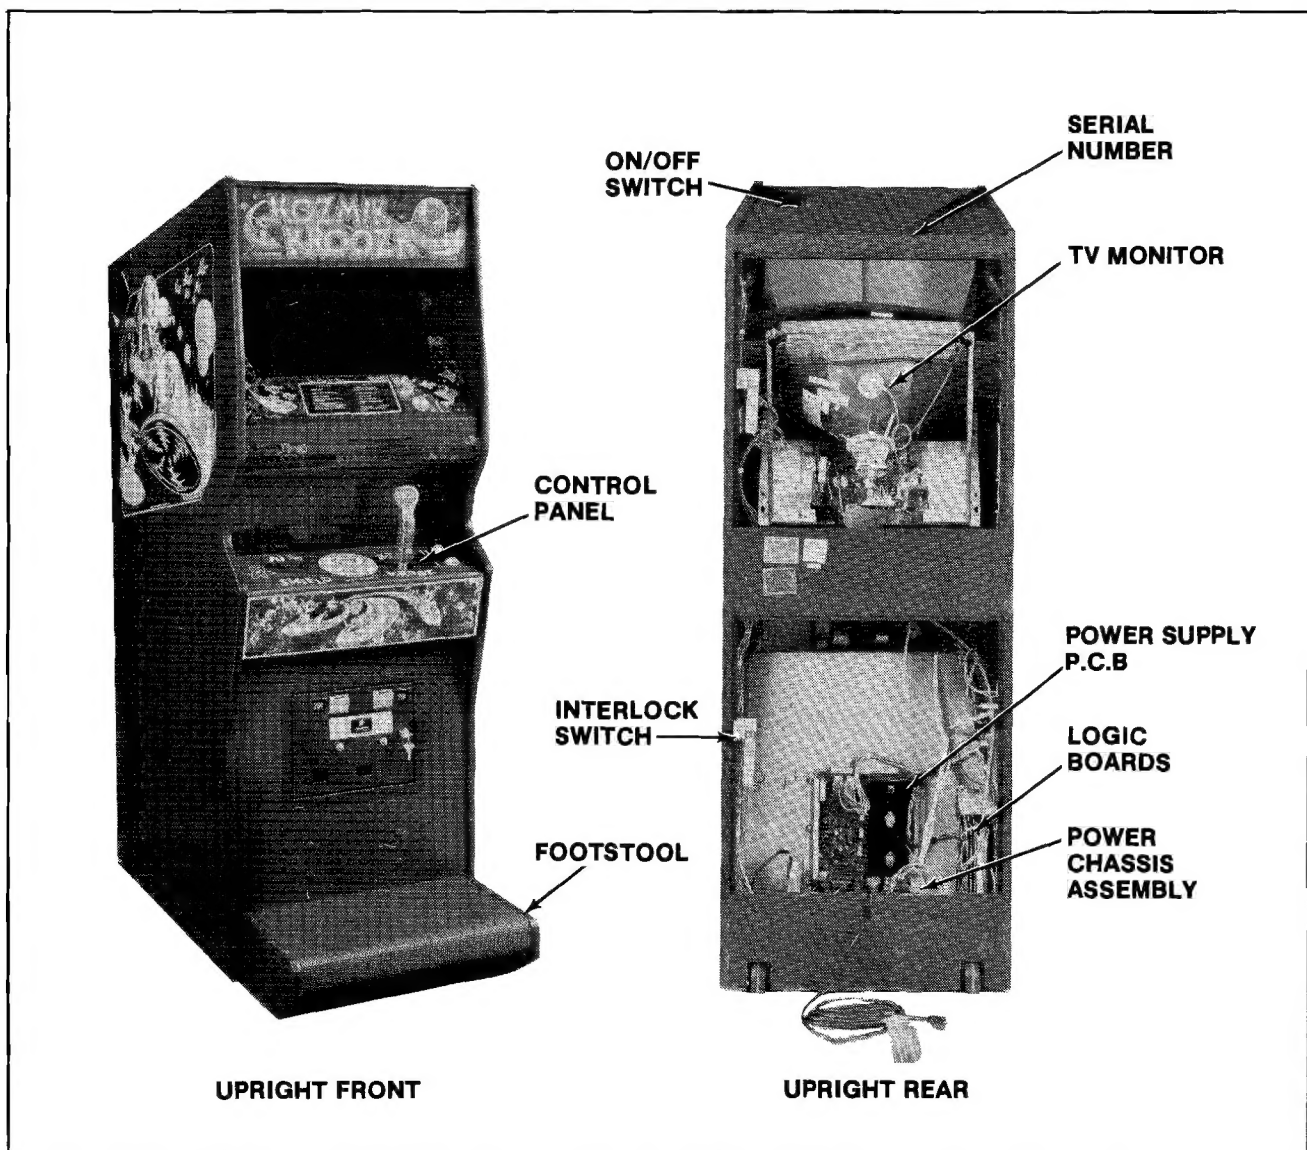

Figure 1-2 Location of Serial No., Interlock Switch, & Major Sub-Assemblies
6. Open the cabinet and inspect the inside of the game for any signs of damage. See Figure 1-2.
- Make sure all printed circuit boards (P.C.B.'s) are firmly seated in their connectors. See Figure 1-2. These connectors are also keyed. The
- Note the location of the game's serial number. See Figure 1-2.
- Check all major subassemblies to be sure they are mounted securely. These are called out in Figure 1-2.
### 3. Interlock and power ON/OFF switches. See Figure 1-2.
The game ON/OFF switches for all models are located as shown in Figure 1-2. Turn the game on and allow it to warm up a few minutes.